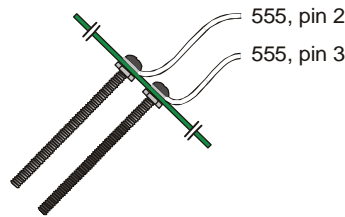

Figure 5-6
- √ Re-install the conductivity sensor. Figure 5-6 shows how to connect the probe to the 555 timer on your breadboard.